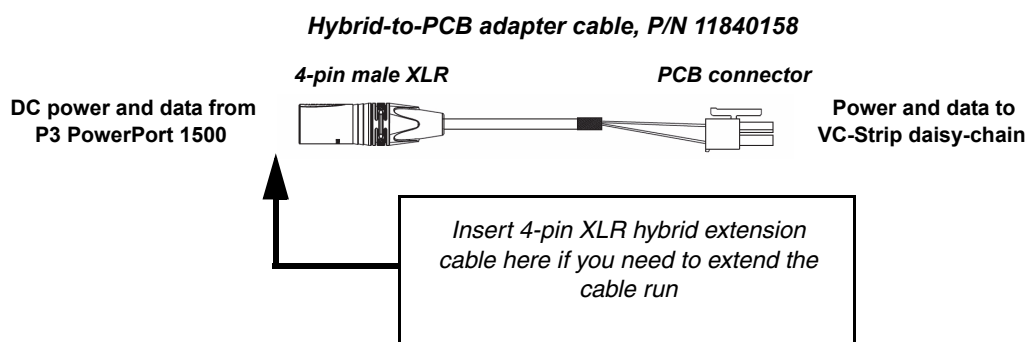

Figure 4: Power and P3 video data input
4. Connect each daisy-chain of VC-Strips to one of the four 4-pin female XLR hybrid (48 VDC power + P3 data) outputs on a P3 PowerPort 1500™ using a Martin™ hybrid 4-pin male XLR to PCB adapter cable, P/N 11840158 (see Figure 4).